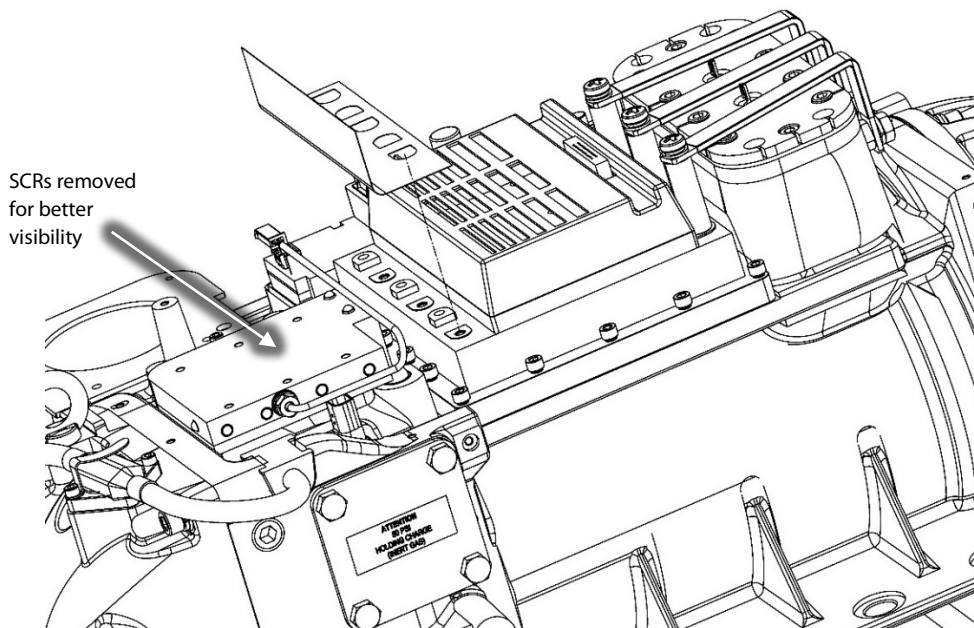

Figure 14 – Capacitor Mylar Removal
24. Remove and discard the insulating Mylar from the Inverter. Refer to Figure 14 (Capacitor Mylar Removal).